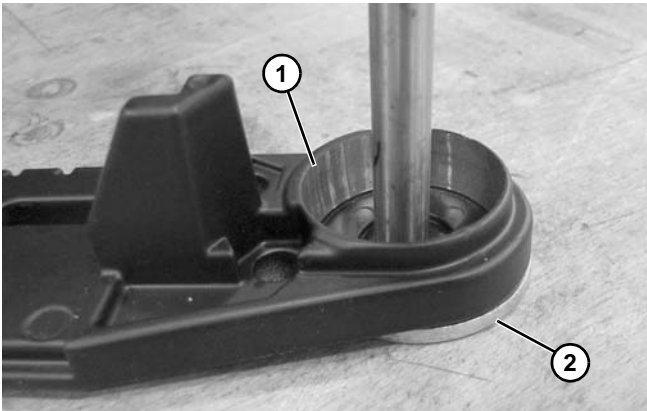

Figure 92
2. Set tail plate (**Figure 92, item 1**) flat side down over washer (**Figure 92, item 2**) or hole in workbench that has a minimum diameter of 5/8".